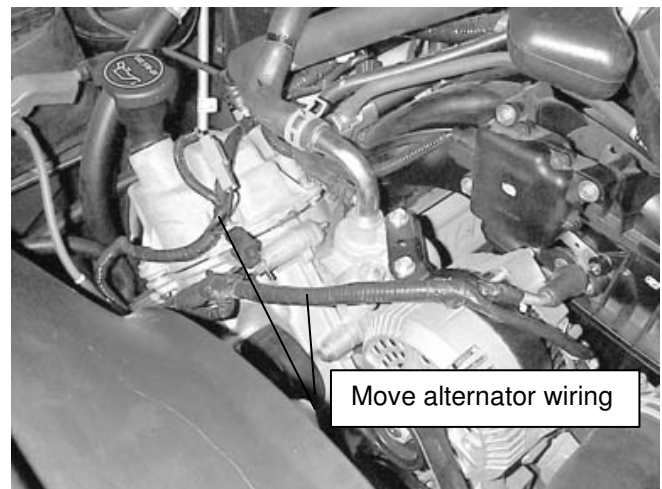

Fig. 5
10. See Fig. 5. Disconnect the wiring from the alternator, pull it from the attachment points on the valve cover and push it back on top of the valve cover. Make sure the alternator wiring will not be pinched between the engine and pump bracket when it is installed.